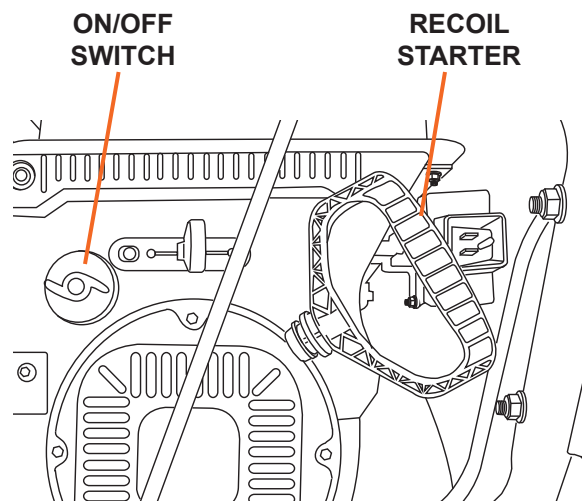

Figure 10
5. Turn the **ON/OFF** switch on (see Figure 10).